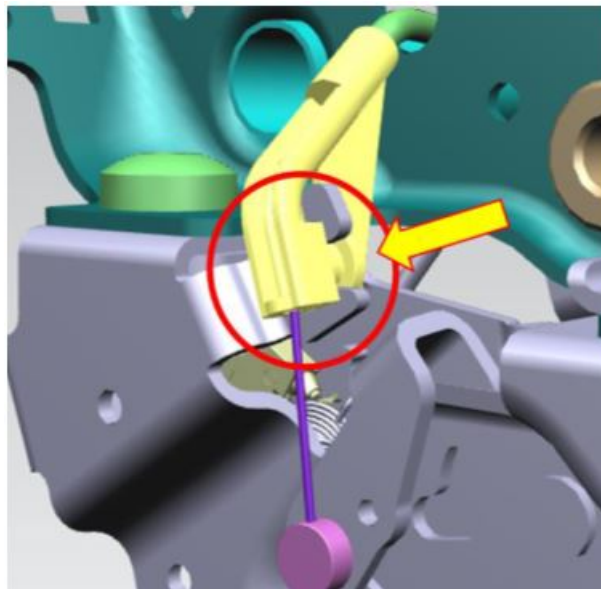

Fig. 3
10. Check if the plastic cable end fitting is completely locked into the mounting bracket (Fig. 3) .